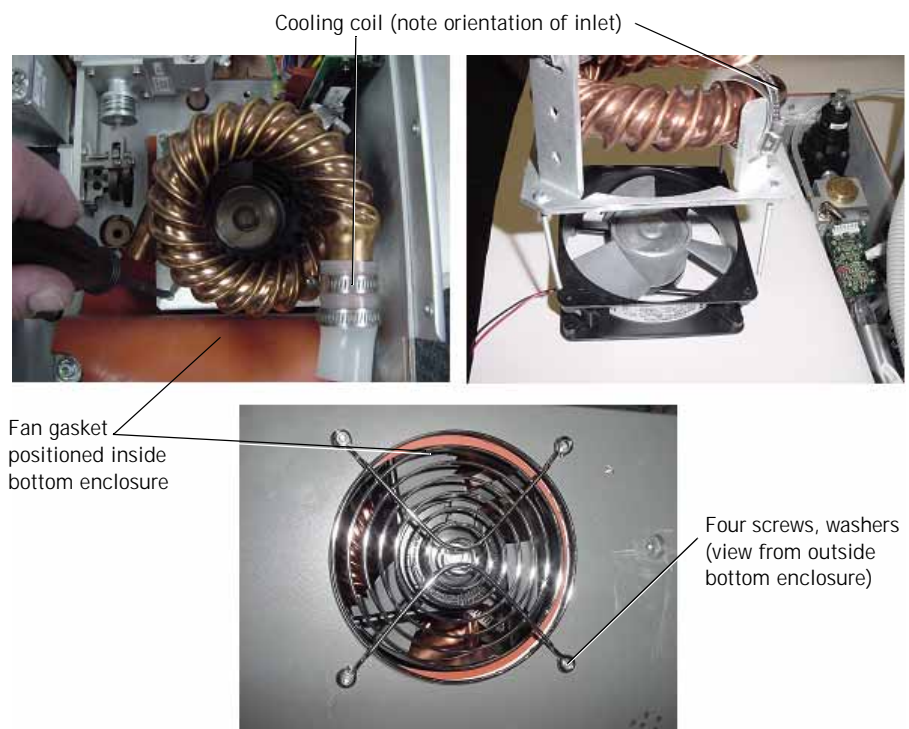

Figure 9-91: Cooling Coil and Fan
Follow these steps to remove the cooling fan/cooling coil assembly (Figure 9-91):
9. Connect the silicone tube from the blower to the crossover solenoid (Figure 9-91).